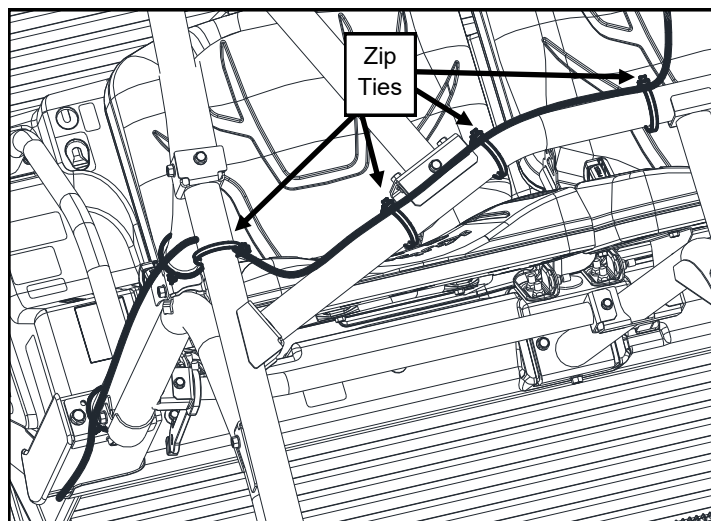

Fig. 7 (shown with canopy removed)
16. Route the harness up the side of the driver's side vertical ROPS tube, under the top of the driver's side upper tube and along the center tube as shown in fig. 7.
19. Starting at the battery, remove as much slack as possible from the harness and use provided zip-ties to secure the wire harness to the ROPS tube. See fig. 7.